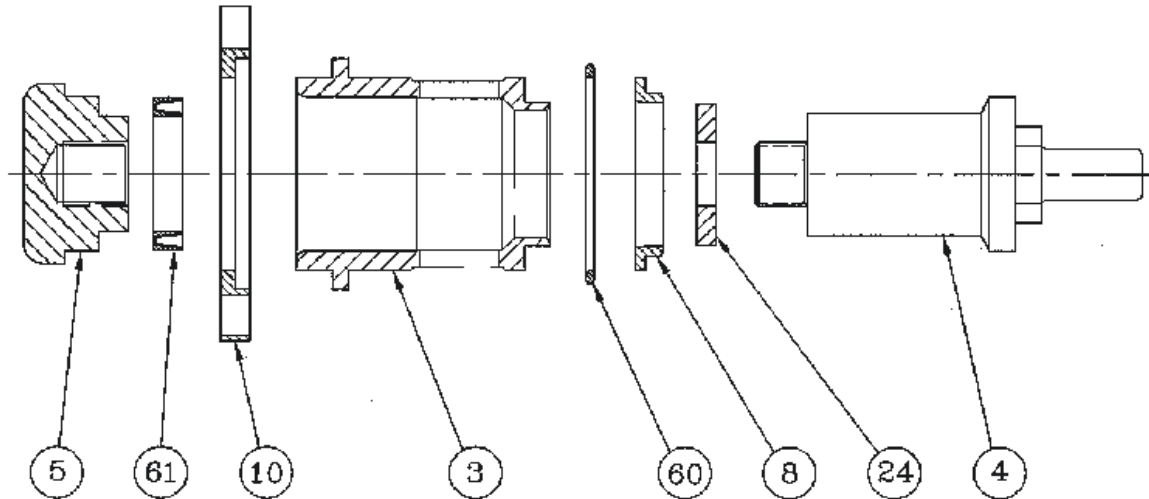

FIGURE 2
- c) Remove the cylinder bolts (P/N 53). Remove the complete inner trim by pulling up on the piston (P/N 5). The inner trim resembles the trim shown in **Figure 2**